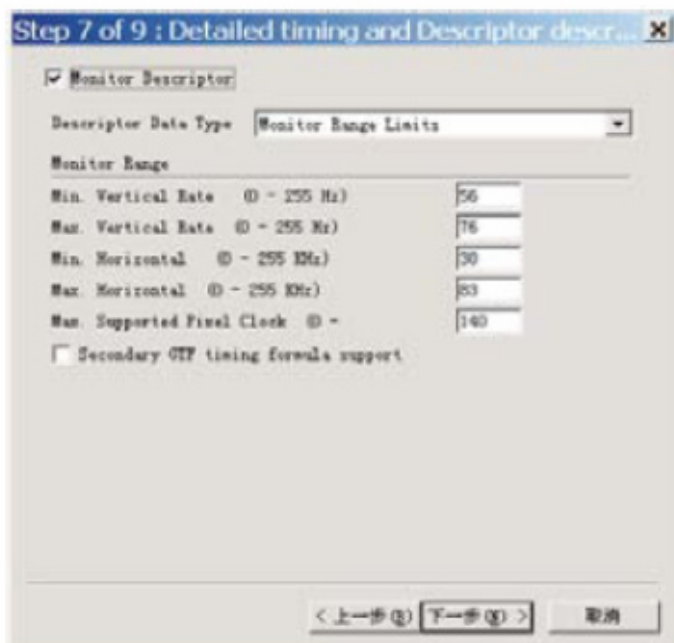

Fig. 37
6. Click Next , bring up Fig. 37.